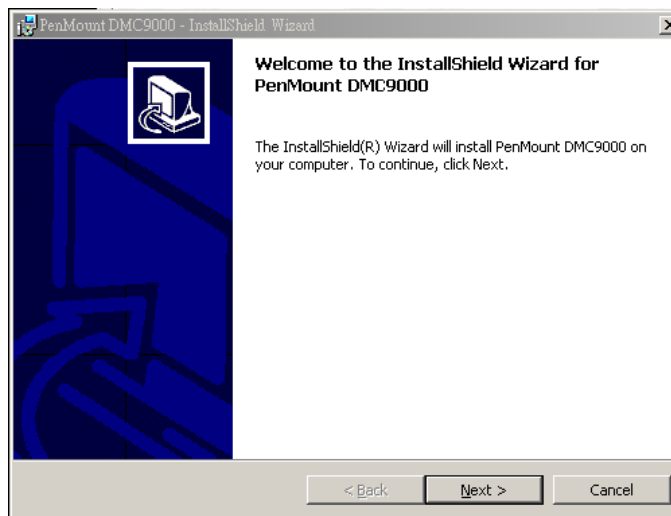

Figure 7-41: Welcome Screen
Step 3: A welcome screen appears (Figure 7-41). To continue the installation process click **NEXT**.